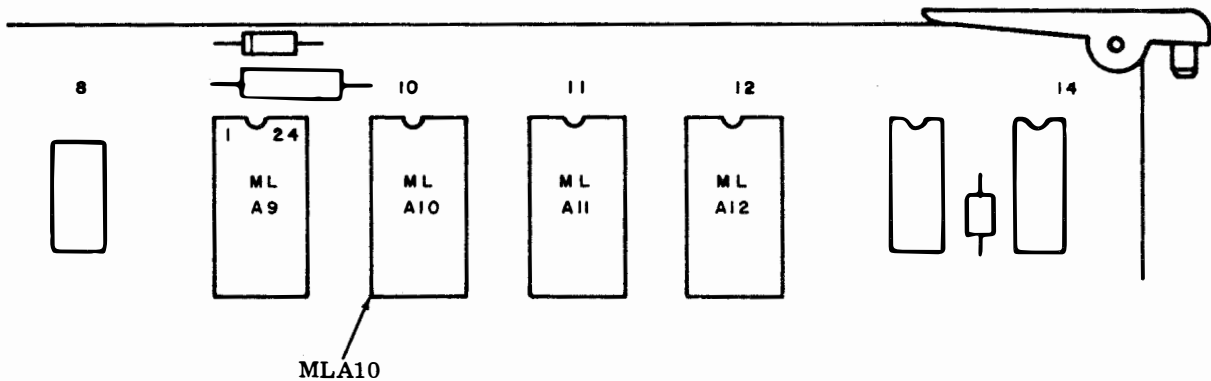

Fig. 2—Logic Pack Locations
⑤ Lift extractor handle(s) carefully.
⑥ Remove circuit cards by lifting straight up.
4.03 Component removal — use a 20 watt or less soldering iron, and a desoldering tool to remove the ROM from the MLA10 pack location (Fig. 2) on the 410018 circuit card.